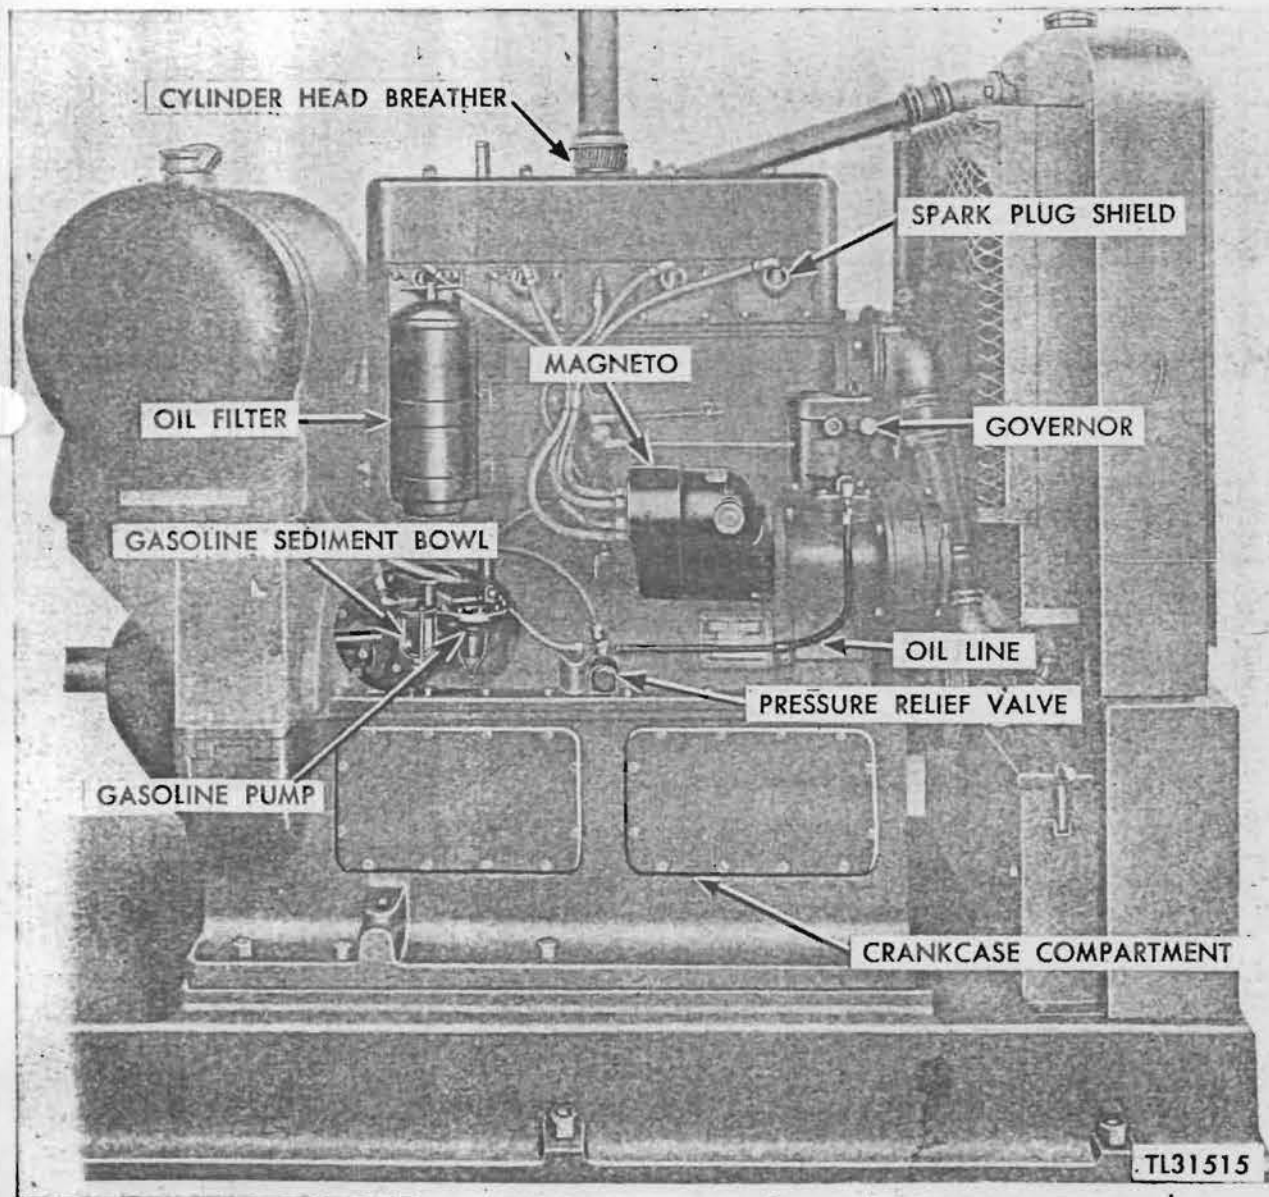

Figure 157. Le Roi gasoline engine, left side.
a. EQUIPMENT CAUTION. (1) Do not open any of the inspection plates or access plates on the engine during a sand or dust storm.
(2) Use extreme care when removing access plates. The gaskets are easily damaged. A damaged gasket should be replaced with a new one immediately. Before removing access plates be sure to have spare gaskets in case some are damaged.
(3) When tightening any oil line connections, be careful not to strip the coupling threads or damage the brass nuts. These parts are made of soft material and are easily damaged.
(4) Before putting oil in the engine be sure the oil does not contain dirt or other foreign matter. Always use new oil. (In some locations, oil becomes contaminated from condensation.)
b. LOCATION. Components of the lubricating system are the oil pump, oil filter, pressure relief valve, oil level, pressure gauge, crankcase and cylinder head breathers, and oil lines. (See fig. 157.)
(1) The oil lines. Look for leakage.
(2) The cylinder-head and crankcase breathers. Remove the breathers. Wash them in kero-